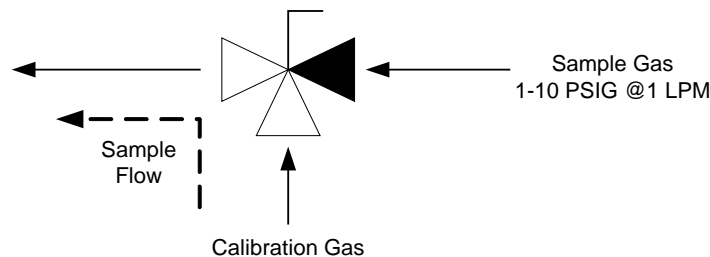

Figure 9 – Calibration gas fixture configuration (typical) – see calibration section (3.2.1) for calibration procedure details.
- Regulated the sample pressure as instructed in section 2.1.2.1(Figure 9)?
Disconnect the measured process from the sensor by removing the installed tubing from the analyzer sample inlet port (this step is not necessary if using a fixed gas manifold – section 2.1.2.1). If it is necessary to exhaust to an alternate path during calibration, remove the installed tubing from the analyzer sample exhaust port. Connect the oxygen sensor to an alternate exhaust location as in section 2.1.2.1, Figure 9.